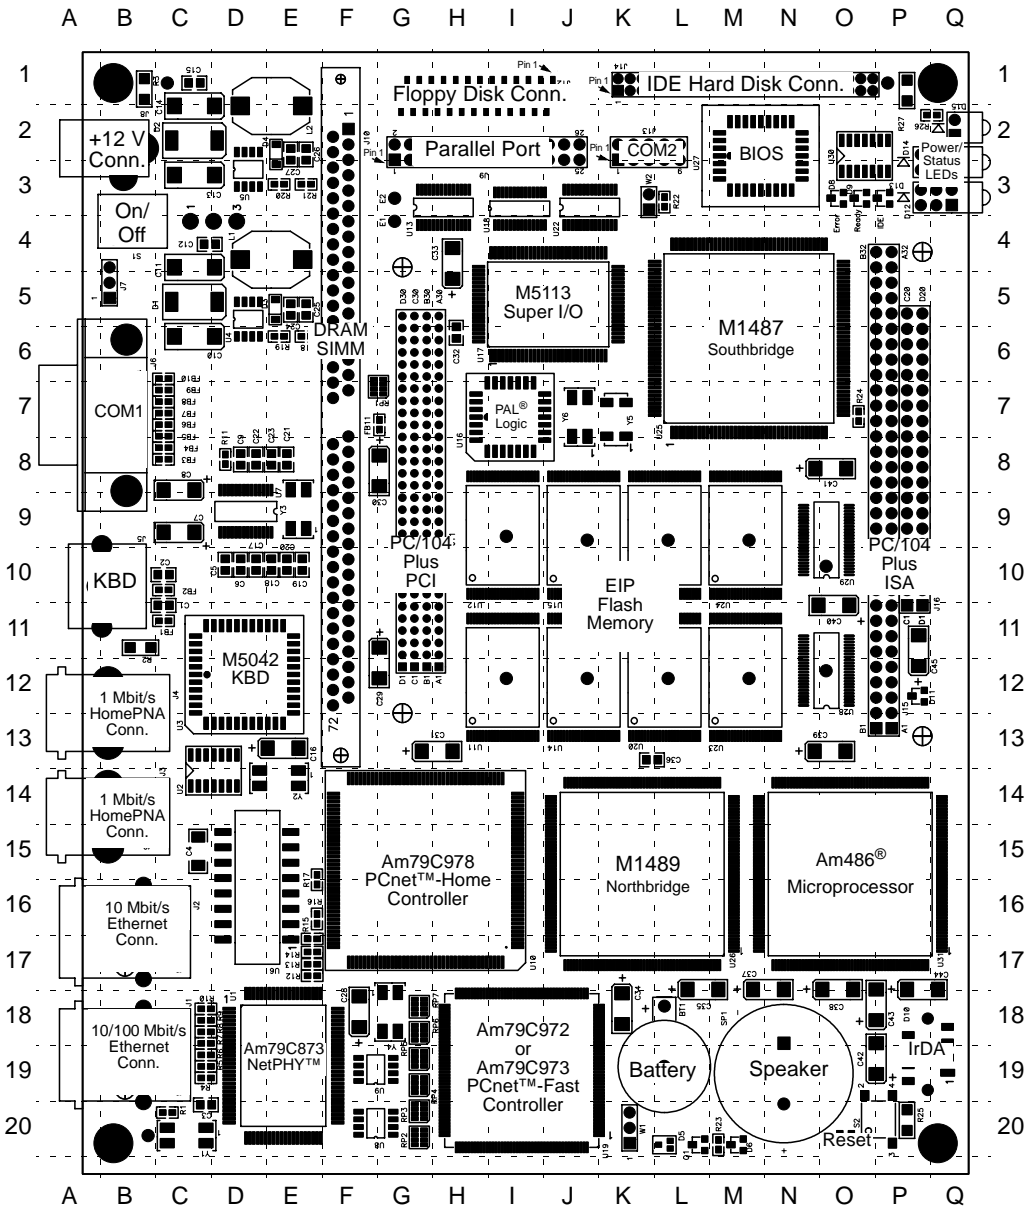

Figure 2-3. Board Layout
- Figure 2-3 on page 2-5 shows the board layout and component locations.
The remainder of this chapter describes the features of the Net486 demonstration board. The number in parentheses following each heading indicates the part's location in Figure 2-3 on page 2-5. In addition, other locations mentioned can be found in the figure. Part numbers mentioned refer to the part reference numbers in the bill of materials and schematics. See Appendix B, "Bill of Materials".